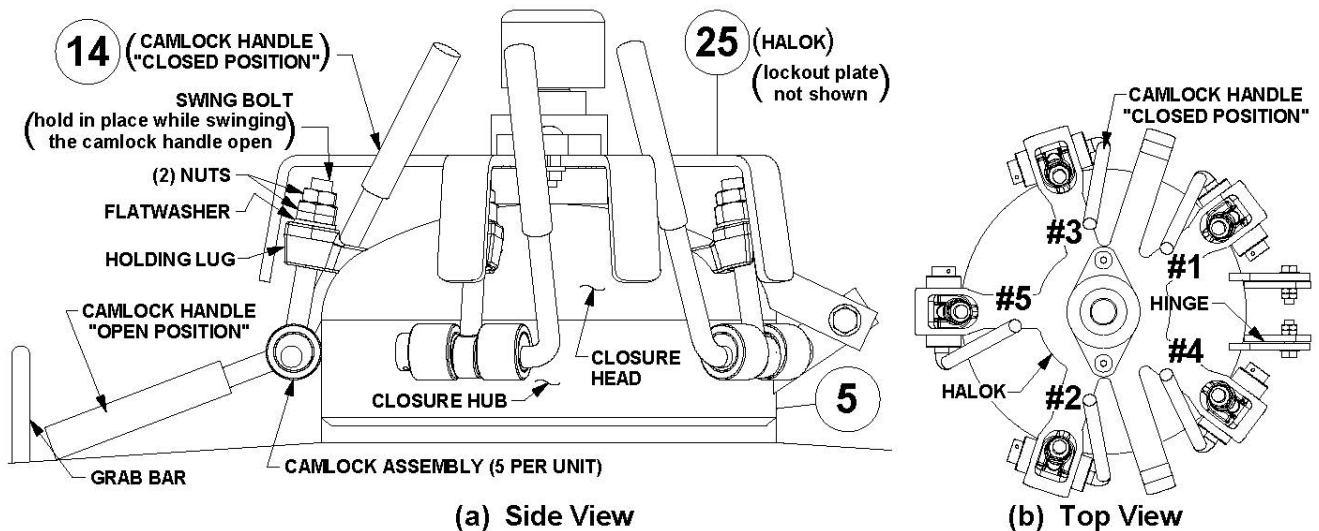

Figure 6.3.1 – Bulk Abrasive Blaster Closure Assembly
6.3.3. In the numbered sequence shown in Figure 6.3.1(b), swing each of the camlock handles (#14) of the closure (#5) into the “open position.” **DO NOT** swing any swing bolts out of the holding lugs. Hold the swing bolt within the holding lug with one hand, and swing each camlock handle down with the other hand. **Note:** The Halok® Assembly (#25) prevents the swing bolts from swinging out of the holding lugs until all camlock handles are in “open” position. See Figure 6.3.1.